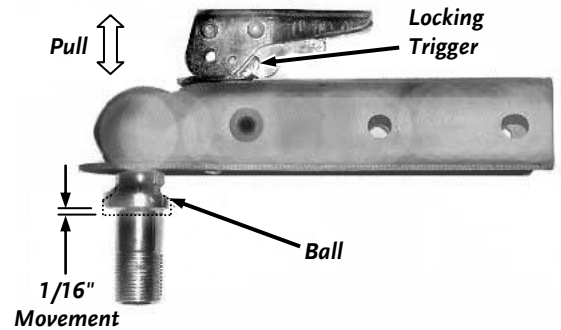

Figure 19
1. Place a 2" Ball in the socket of the Receiver and close the Latch Assembly (**Figure 19**). Verify that the Locking Trigger is properly engaged in its detent.